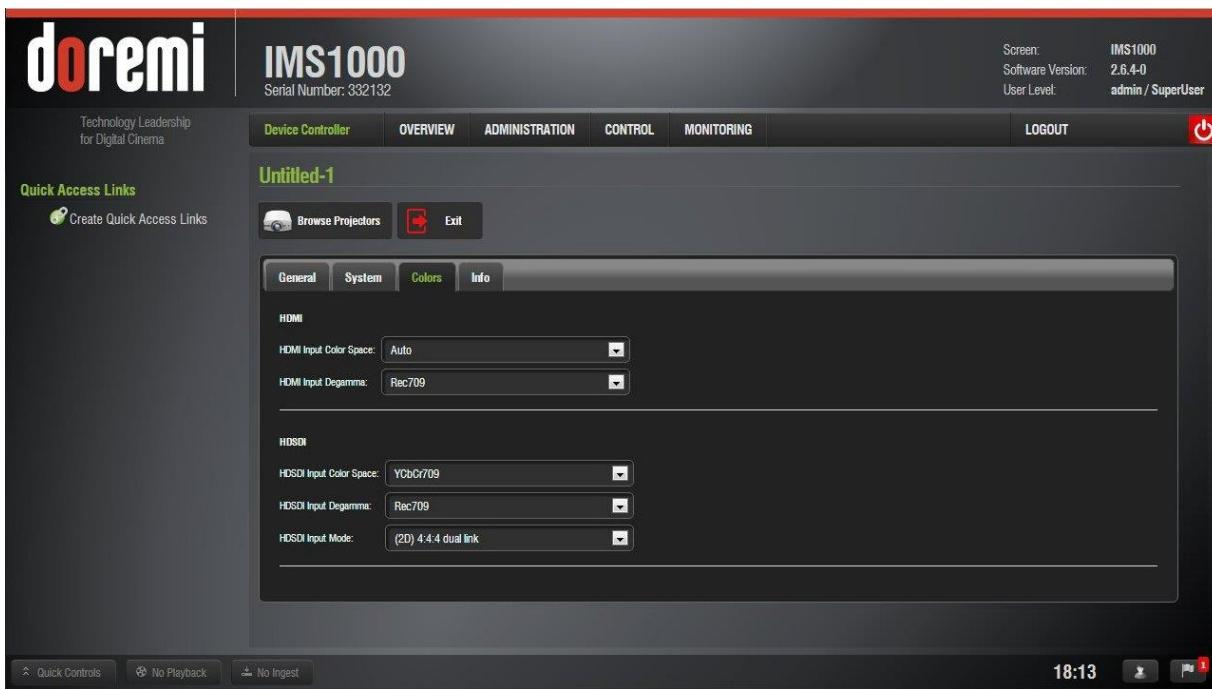

Figure 312: Colors Tab
- The third tab, called Colors, allows the user to modify the color space for HDMI and HSDI inputs (Figure 312).